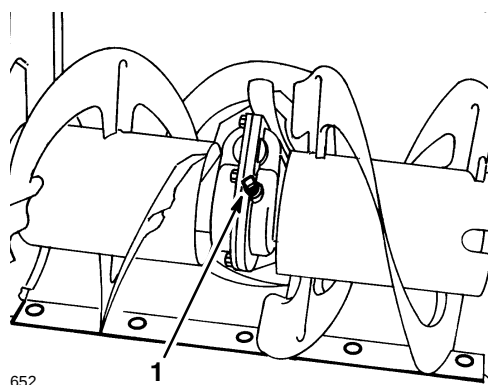

Figure 19
3. Clean the area around the pipe plug (Fig. 19).
4. Remove the pipe plug from the gear box (Fig. 19).